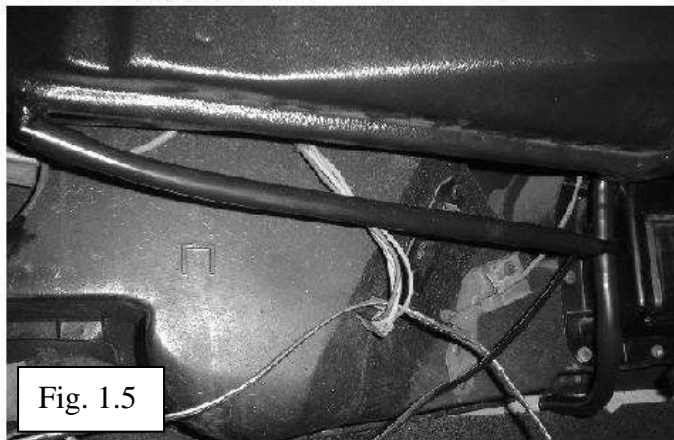

Fig. 1.5
- 12) We recommend keeping the drain out of sight, out of the feet area, and not draining onto the exhaust. Figure 1.5